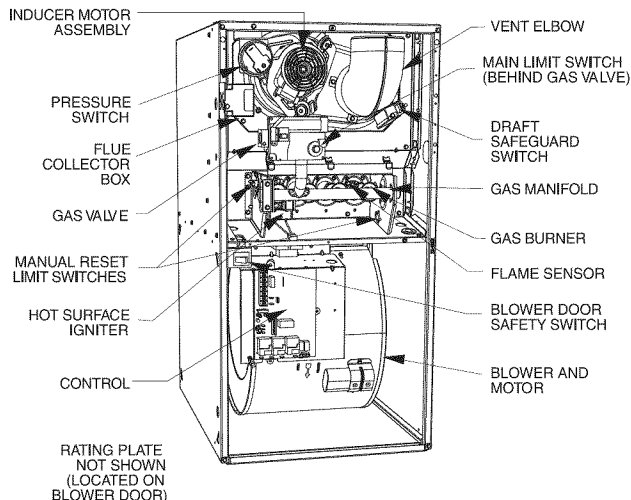

Fig. 17 - Representative Furnace Drawing
1. Disconnect the gas pipe from gas valve and remove pipe from the furnace casing. See Fig. 17.